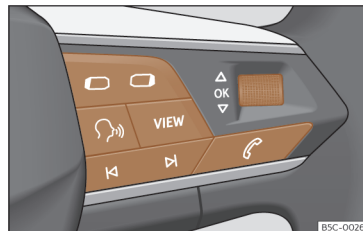

Fig. 56 Right side of the multifunction steering wheel: buttons for using the instrument cluster's menus and information displays (depending on versions).
As long as a priority 1»» page 70 warning is active, it will not be possible to access any menu. Some warnings can be confirmed and hidden with the button **OK** of the multifunction steering wheel»» **Fig. 56** .
- If a message or vehicle symbol is displayed, press the button **OK**»» **Fig. 56** ; if necessary, several times.
- To change menus, use buttons  or  »» **Fig. 56**.
- To open the menu or the information displayed, press the button **OK**»» **Fig. 56** or wait
- In the menu displayed, turn the right thumbwheel of the multifunction steering wheel»» Fig. 56 until the desired option of the menu is highlighted. The option appears framed.
- Press the button **OK**»» Fig. 56 to make the required modifications. A mark indicates that the system or function is activated.
Press the button  or »» Fig. 56.